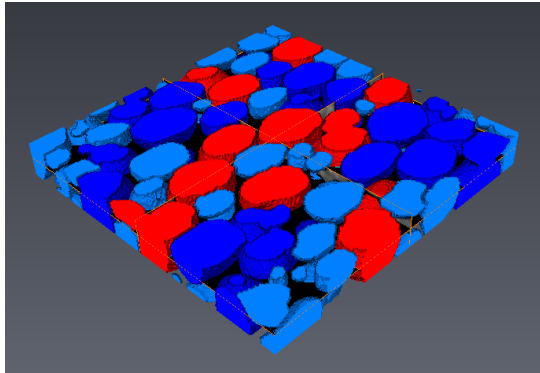

Figure 4.18: Sieve analysis result displayed with a *Volume Rendering*
- Display the label image using a *Volume Rendering* module, as shown on Figure 4.18.